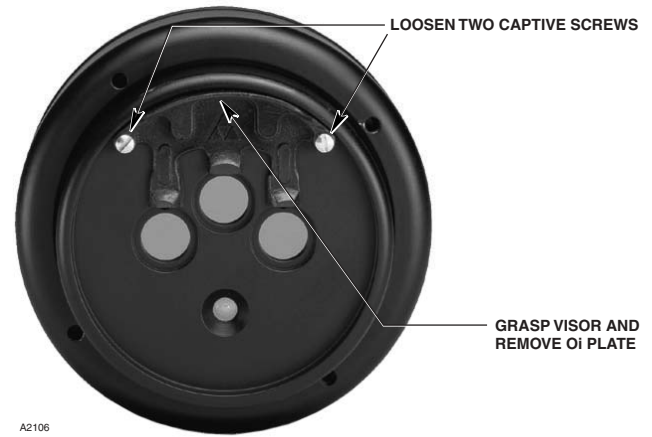

Figure 13—Oi Plate Removal
1. Loosen the two captive screws, then grasp the **oi** plate by the visor and remove it from the detector. See Figure 13.